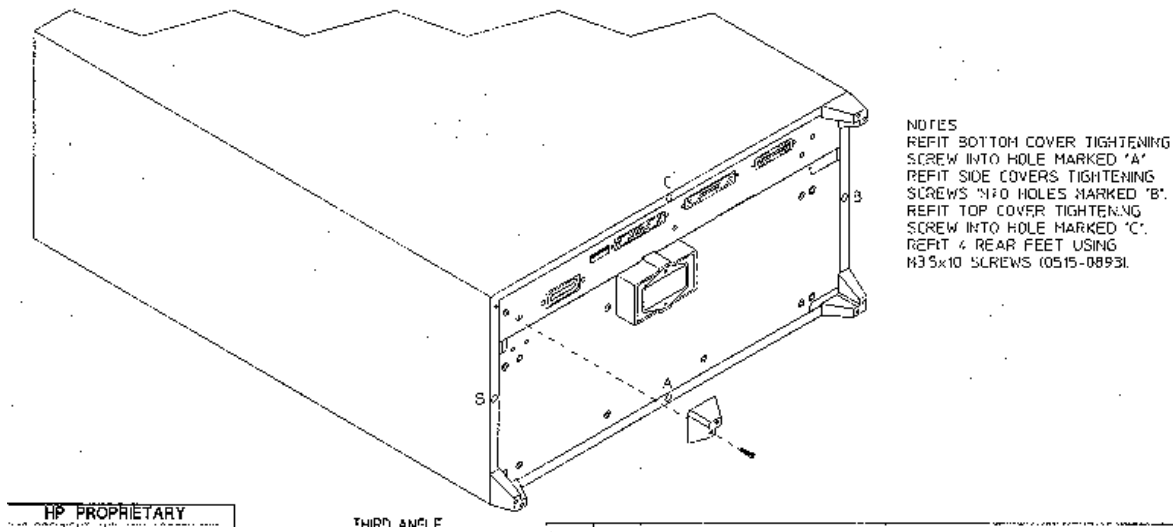

Figure 12
11. Re-fit the bottom, side and top covers and secure by tightening the screws into holes A, B and C as shown in FIG 12.
12. Re-fit the rear feet to the unit, as shown in FIG 12, using 0515-0893 screws supplied with the refurb kit.